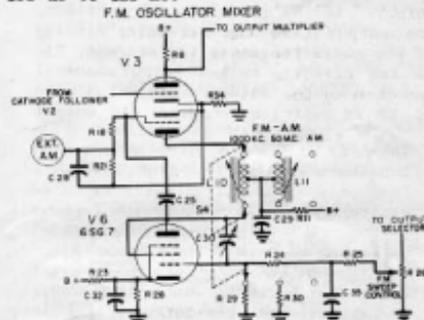

Figure 2.6 FM Oscillator - Mixer
**B.** As shown in Figure 2.6, one half of the type 6SN7 tube, V3, is used as a triode r-f oscillator to operate at either 1 mc, when utilizing inductance L10, or at 50 mc, when utilizing inductance L11. Either of these signals may be frequency modulated by means of the type 6SG7 reactance tube, V6. The 6SG7 circuit is the electronic equivalent of the mechanically operated variable capa-